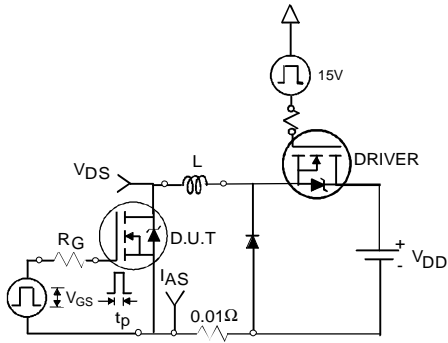

Fig 12a. Unclamped Inductive Test Circuit
- ② Starting $T_J = 25^\circ\text{C}$, $L = 0.38\text{mH}$, $R_G = 25\Omega$, $I_{AS} = 29A$, (See Figure 12a)
- ③ $I_{SD} \leq 29A$, $di/dt \leq 420A/\mu s$, $V_{DD} \leq V_{(BR)DSS}$, $T_J \leq 150^\circ\text{C}$
- ④ Pulse width $\leq 300\mu s$; duty cycle $\leq 2\%$.
- ⑤ $C_{oss\ eff.}$ is a fixed capacitance that gives the same charging time as C_{oss} while V_{DS} is rising from 0 to 80% V_{DSS}
- ⑥ Calculated continuous current based on maximum allowable junction temperature. Package limitation current is 30A.